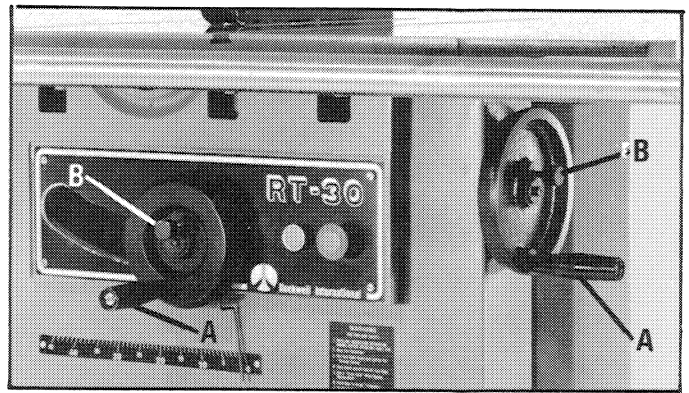

Fig. 9
1. Assemble the blade raising and tilting hand levers (A) and lock screws (B) Fig. 9, to the two handwheels, as shown.